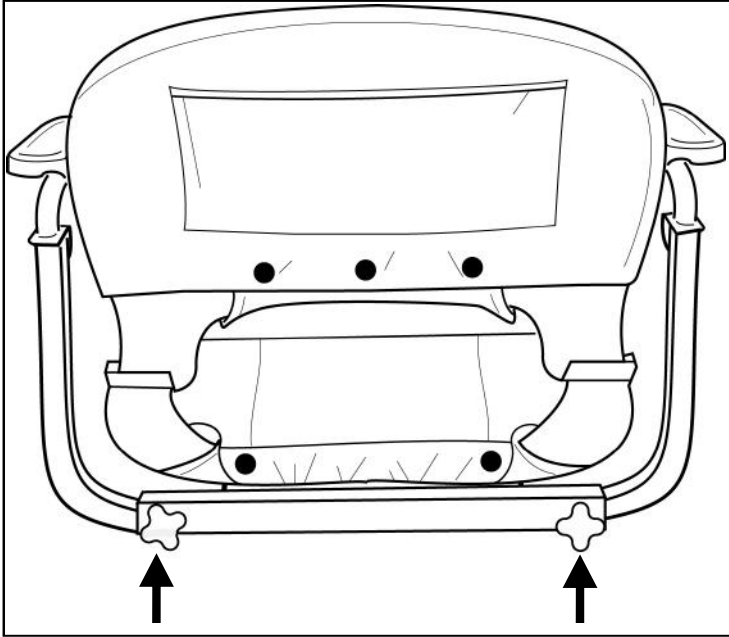

Figure 6. Armrest Width Adjustment
1. Loosen the adjustment knobs at the rear of the seat. See figure 6.